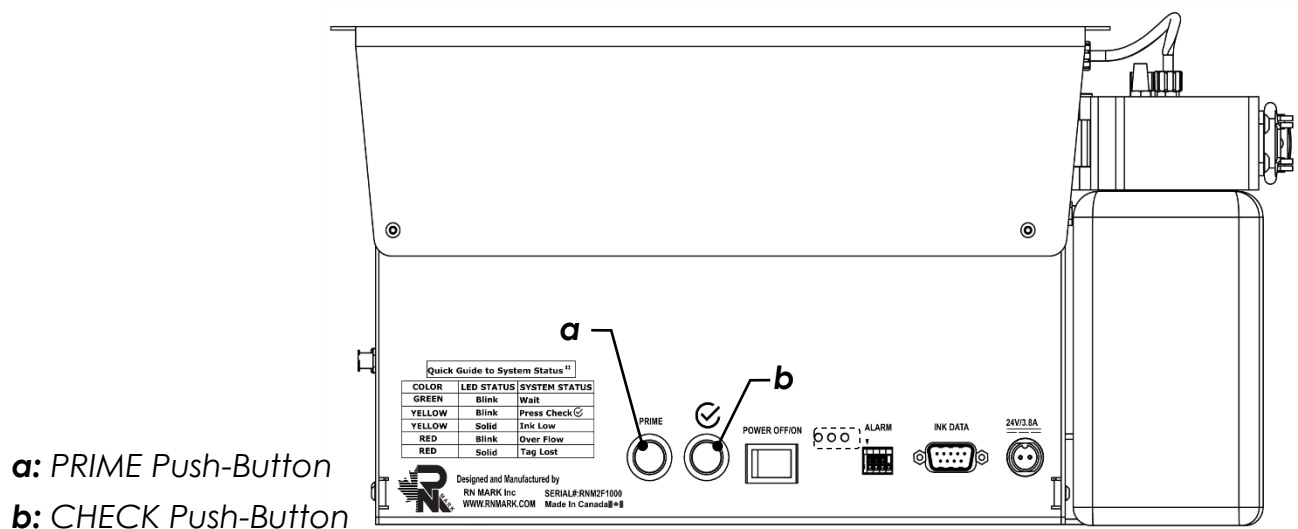

Figure 46
**Notice1:** *The purge button is a momentary push button and will stop purging as soon as it is released. For proper purging please push and hold the button if required (see Figure 46).*